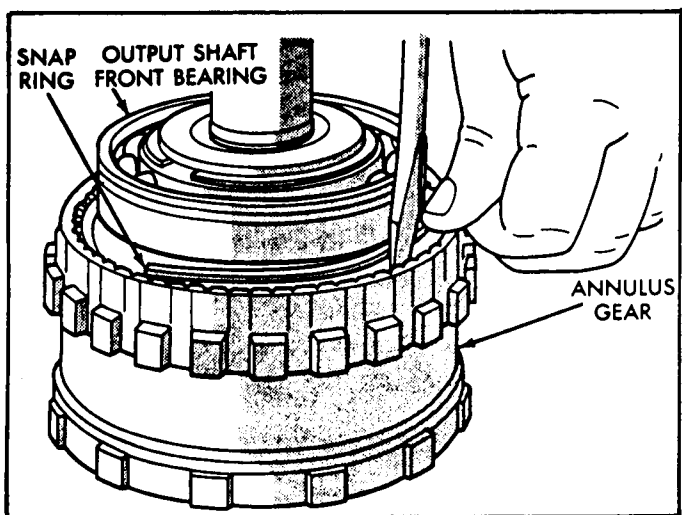

Figure 3
5. Align and install output shaft in the annulus gear, and install the snap ring as shown in Figure 3.